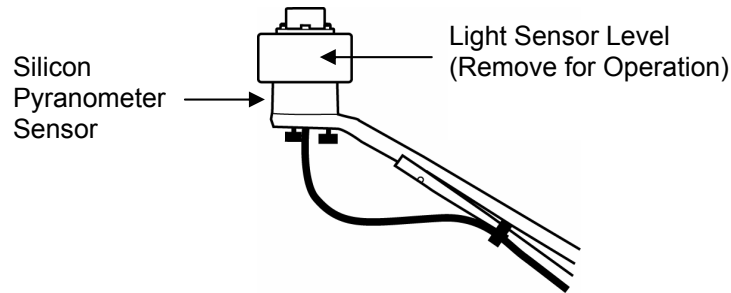

Figure 2: Leveling the Sensor on the Light Sensor Bracket
- Check the level and repeat above steps if necessary (see Figure 2).